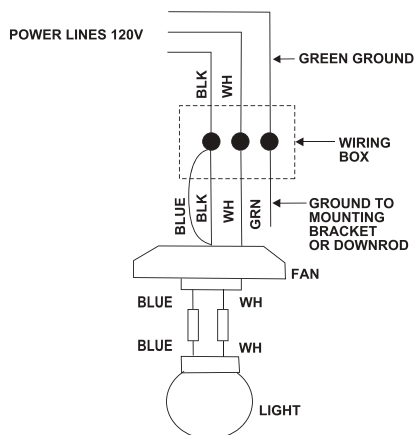

Figure 6
Step 1. Connect the fan supply (black) wire and light supply (blue) wire to the black household supply wire as shown in Figure 6.